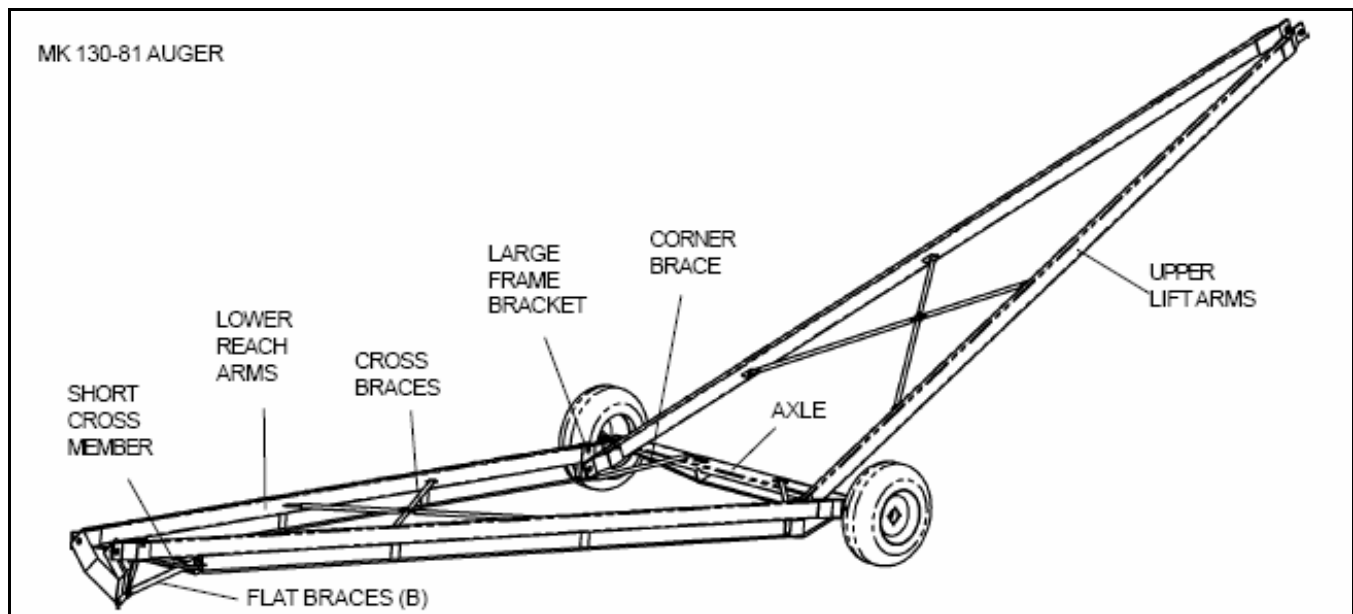

Figure 3.29 81'
- ➔ 3. **81'**: Install 2 corner braces with 1/2" x 1-1/4" bolts and locknuts as seen in Figure 3.29.